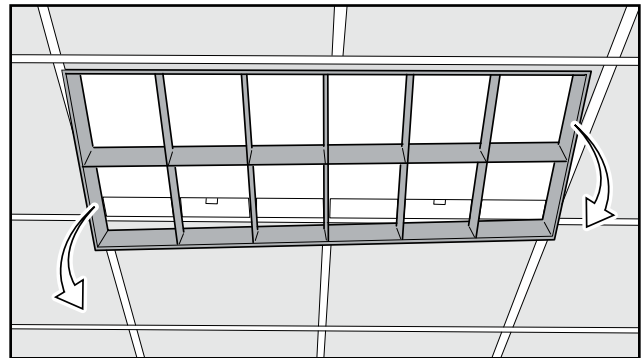

Figure 1.
1. Turn power off and take out original door frame (Fig. 1).